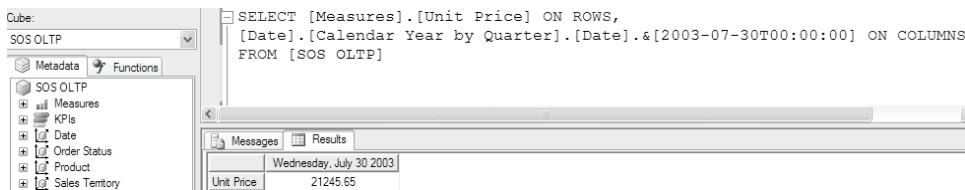

Figure 15.27 Testing proactive caching with SQL Server Management Studio.
4. Double-click on the Test Proactive Caching.mdx script file and connect to the SSAS instance where you’ve deployed the SOS OLTP UDM. Make sure that the SOS OLTP cube is selected in the MDX designer Cube dropdown (Figure 15.27).